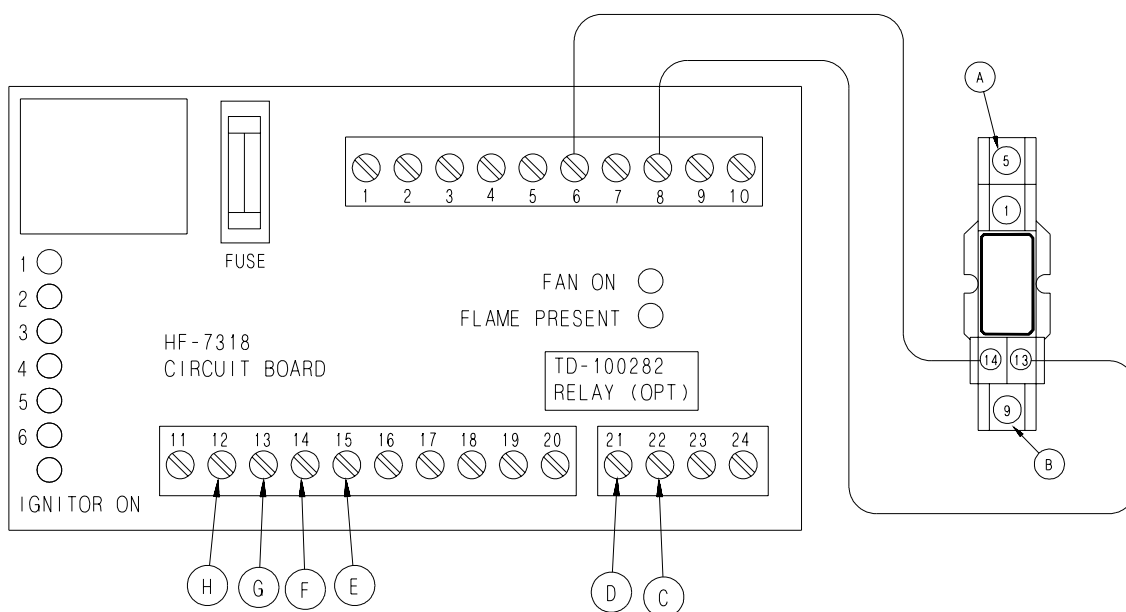

Figure 4: The HF-7318 control board.
**Figure 4: Use a #6 or approved size bare copper ground wire. Install a 5/8" diameter 8' long copper-clad ground rod, 2' away from the foundation and 1' below the surface of the ground or in accordance with local requirements.**
6. Connect the bare ground wire to the fan control boxes with a grounding lug. See figure 4.